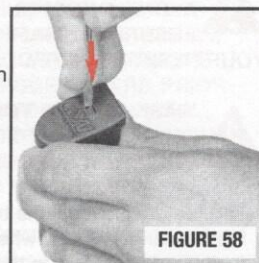

FIGURE 58
- Using a pointed tool, depress floorplate catch through the hole in the floorplate (FIGURE 58).